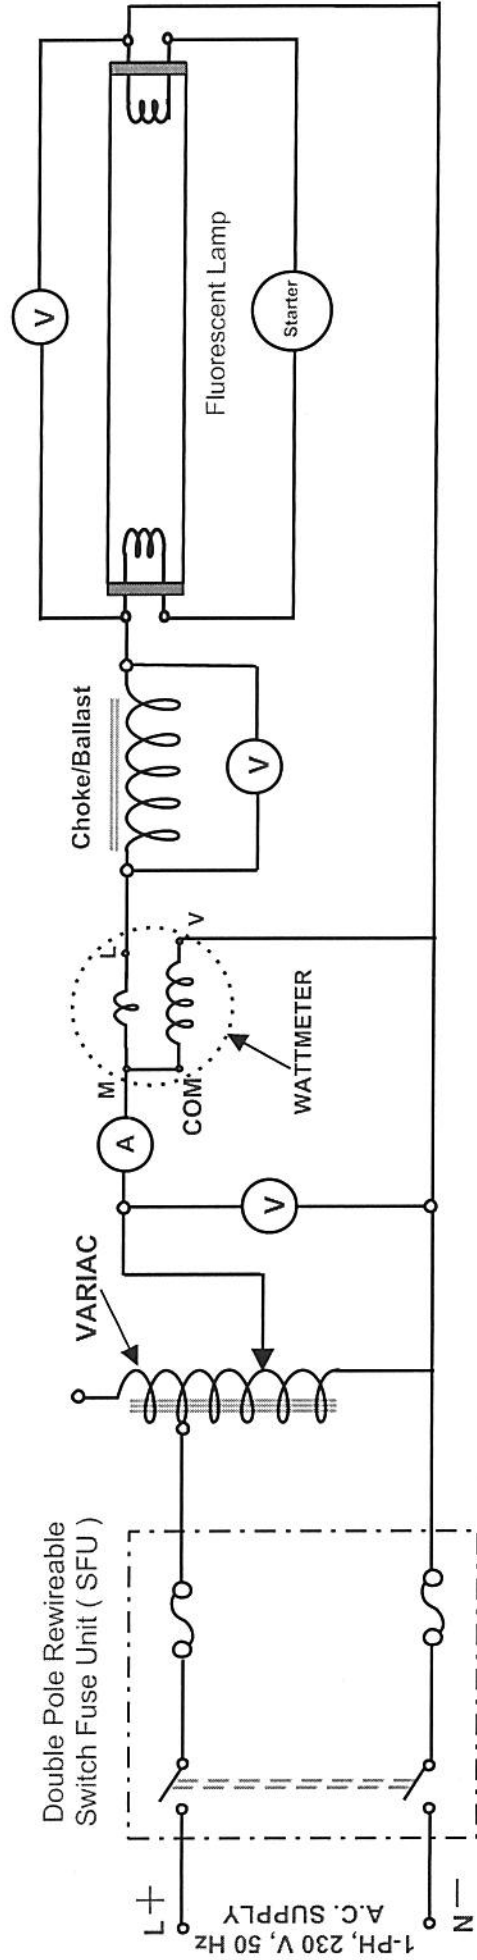

Fig : 6.2 Circuit Diagram for Determination of Lamp Characteristic (Fluorescent)
1. Connect the Fluorescent lamp according to the circuit diagram in Fig.6.2.